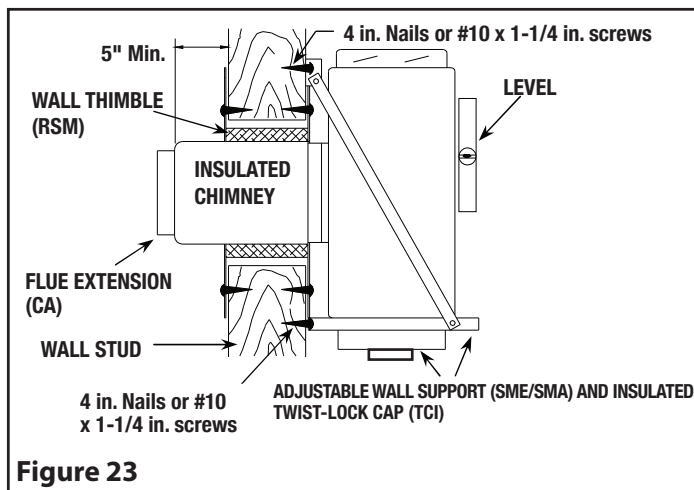

Figure 23
Step 4. This step will require 2 people: (see Figure 23). Insert the chimney length of this tee-support assembly into the hole in the wall. Using a level, ensure the tee is vertical, then attach the support to the wall using (8) N°. 10 x 1 - 1/4" wood screws or 4" spiral nails.